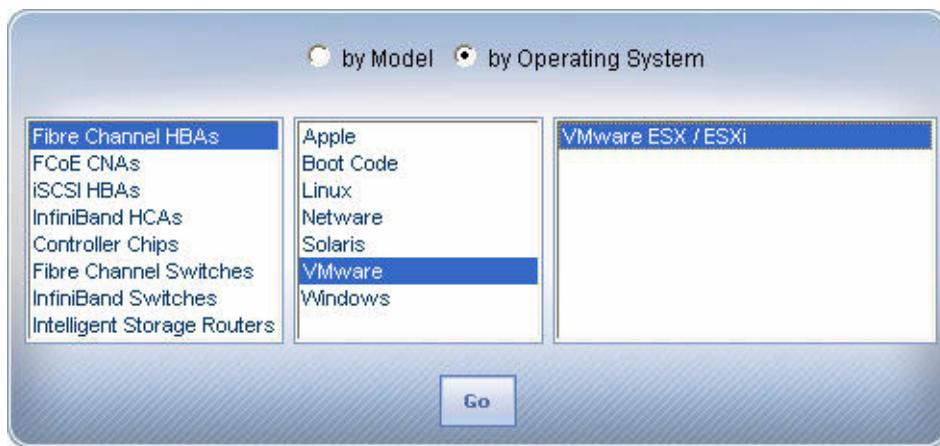

Figure 2-2 Downloading SANsurfer FC HBA Manager—VMware
2. Click the **by Operating System** button, and then select **Fibre Channel HBAs, VMware**, and **VMware ESX/ESXi**, as shown in Figure 2-2.